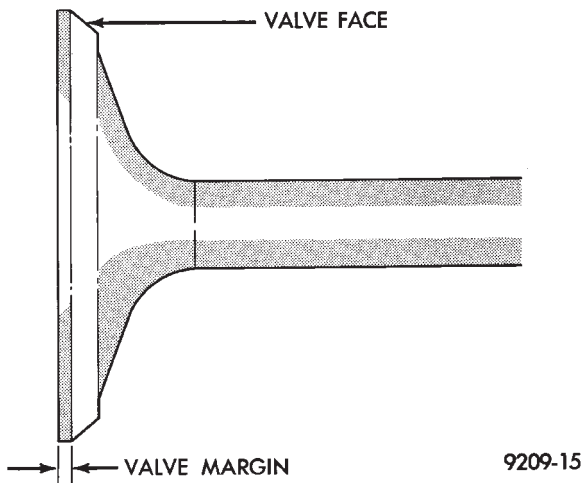

Fig. 22 Refacing Intake and Exhaust Valves
(1) The intake and exhaust valve seats and valve face have a 45 degree angle.
(2) Inspect the remaining margin after the valves are refaced (Fig. 22). Exhaust valves with less than 1.191mm (3/64 inch) margin and intake valves with less than .794mm (1/32 inch) margin should be discarded.
(3) When refacing valve seats, it is important that the correct size valve guide pilot be used for reseating stones. A true and complete surface must be obtained.
(4) Measure the concentricity of valve seat using a valve seat dial indicator. Total runout should not exceed .051mm (.002 inch) (total indicator reading).